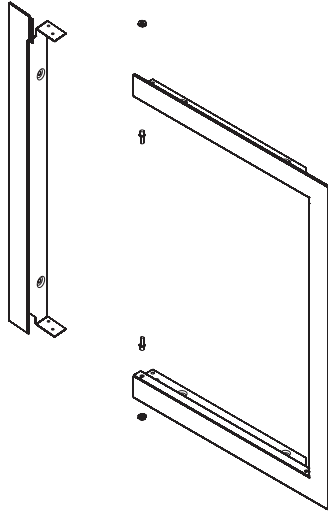

Figure 5
1. Remove doors from frames by depressing one of the spring loaded pins on each door and set them aside. Disassemble frame by removing the two screws and door pin from both door frames as shown in Figure 5.